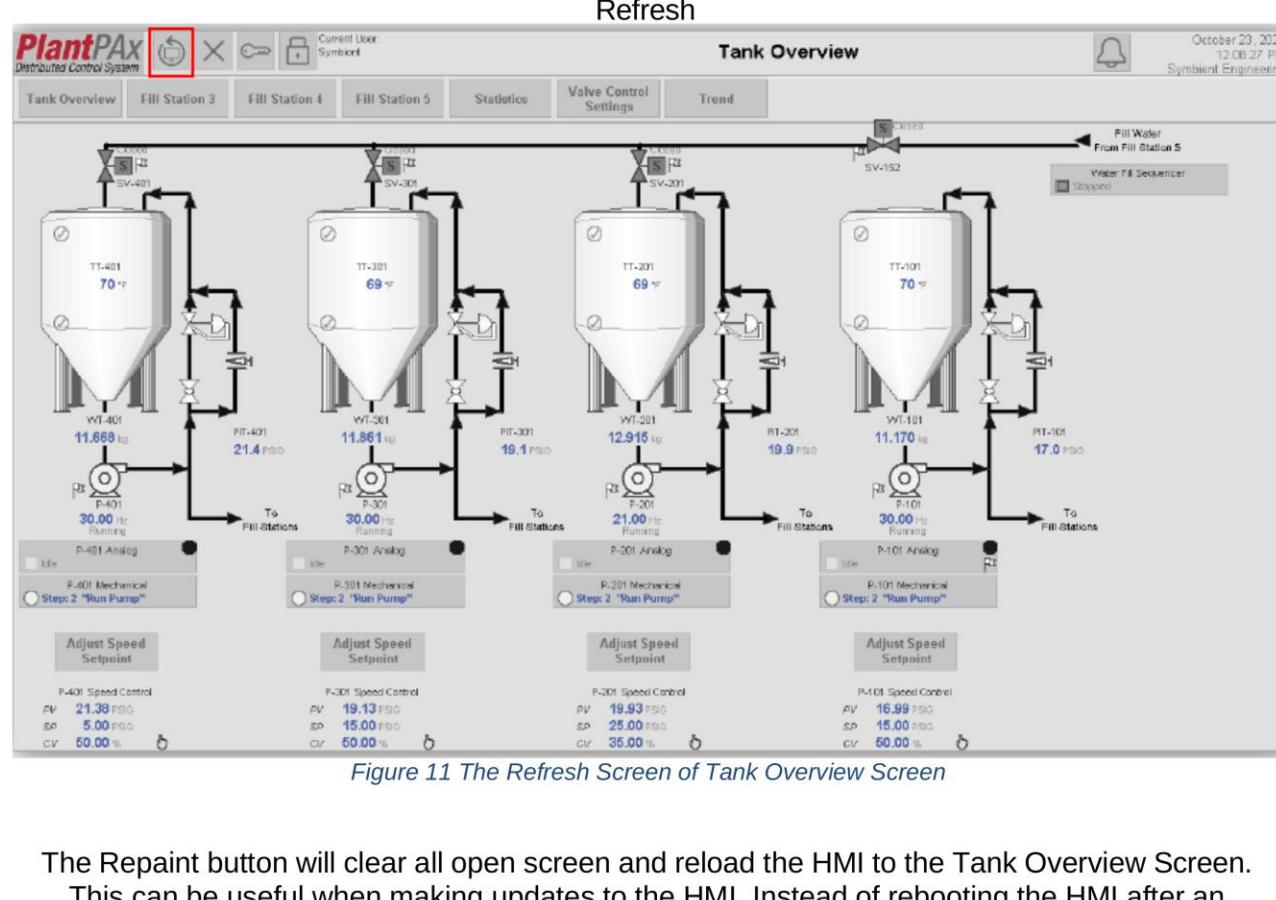

Figure 11 The Refresh Screen of Tank Overview Screen
The image (Figure 11) shows a screenshot of a Distributed Control System (DCS) interface, specifically the "Tank Overview" screen from PlantPAX. The screen displays the status and control parameters for four tanks, labeled TT-401, TT-301, TT-201, and TT-101. Each tank has associated temperature (TT), pressure (PT), and flow (FT) transmitters, as well as control valves (SV) and pumps (P).